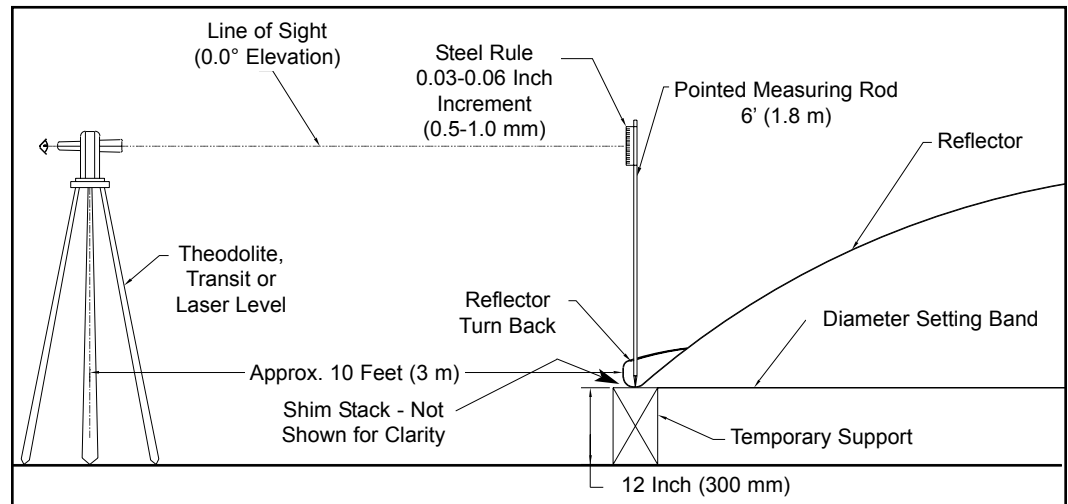

Figure 62
- Step 2** Position theodolite, transit or laser level about 10 feet [3m] from outside perimeter of reflector (see Figure 62).
- Step 4** Site through theodolite/transit to determine where on measuring rod to place steel rule onto rod to allow visibility of steel rule through theodolite/transit/laser level at all (6) six measurement locations around reflector. Securely fasten both ends of steel rule to measuring rod with adhesive tape (see Figure 62).
Step 7 Position measuring rod point down over temporary supports and on the flat portion of the aperture face as shown in Figures 62 and 63, using theodolite/transit/laser level carefully measure and record relative height of each of the (6) temporary support locations. **Note:** Measuring rod must be held in a vertical position during all measurements.